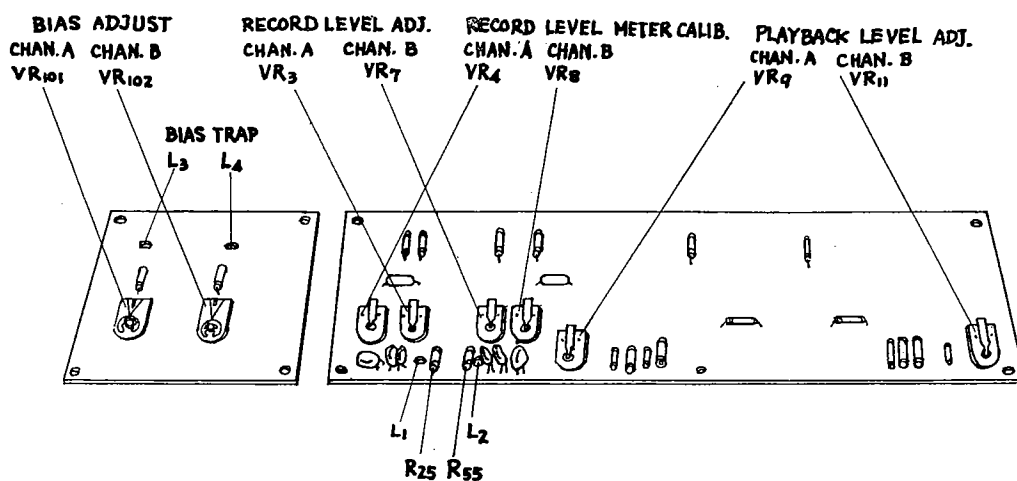

FIG. 9 RECORD AND PLAYBACK ADJUSTMENTS (bottom view)
13. Adjust the playback level control on the printed circuit board (VR9 for Channel A, VR11 for channel B, Fig. 9) to obtain 0 VU reading on the VU meter.
2. While recording a 500 Hz tone on the tape, adjust Channel A bias adjusting potentiometer (VR101, Fig. 9) for maximum output. Then turn the bias adjusting potentiometer counterclockwise until output meter reading decreases by 0.5 db from the maximum level.
3. Connect the signal generator to Channel B LINE input, and perform the same steps as above adjusting Channel B bias adjustment potentiometer (VR102, Fig. 9).
4. While recording a 500 Hz signal on the tape, adjust Record Level Calibration (VR3, VR7, Fig. 9) to obtain VU meter reading of exactly 0 VU.
6. Adjust Record Meter Level Calibration (VR4, VR8, Fig. 9) to obtain VU meter reading of exactly 0 VU.